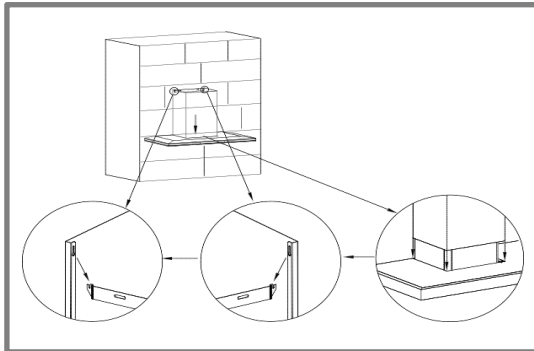

Fig. 9
Step 4 (Fig.9, Fig.9.1, Fig.9.2)
- Secure the mounting bracket onto the screws firmly 1 & 2 and place the outer flue duct onto the appliances. (Fig. 9).